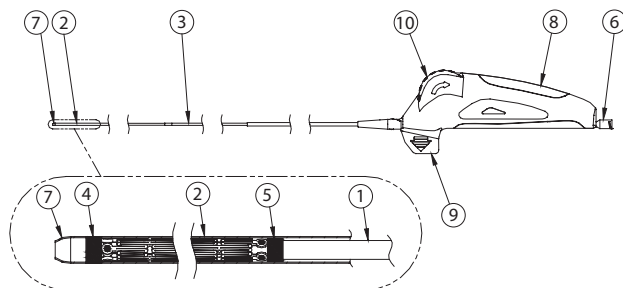

Figure 1. Entrust delivery system
The Entrust delivery system, shown in **Figure 1**, has a triaxial shaft design comprised of an inner shaft (1), silver retractable outer sheath (2), and a gold isolation sheath (3) for ease of use during deployment. The ergonomic deployment handle (8) has a removable safety locking pin (9), deployment wheel (10), and luer hub (6).